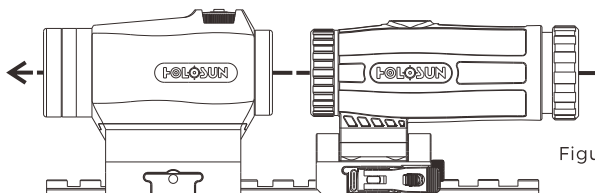

Figure 2
1. Combine the HM3X with a HOLOSUN sight for improved target identification at distance. (as shown in Figure 2)